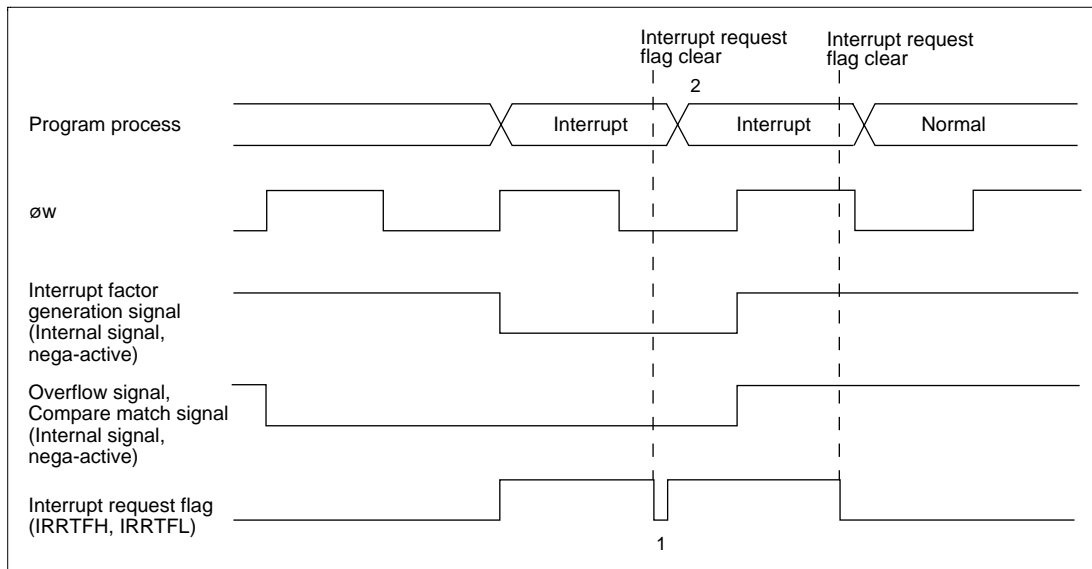

Figure 9.6 Clear Interrupt Request Flag when Interrupt Factor Generation Signal is Valid
When $\phi w/4$ is selected as the internal clock, “Interrupt factor generation signal” will be operated with ϕw and the signal will be outputted with ϕw width. And, “Overflow signal” and “Compare match signal” are controlled with 2 cycles of ϕw signals. Those signals are outputted with 2 cycles width of ϕw (figure 9.6)
In active (high-speed, medium-speed) mode, even if you cleared interrupt request flag during the term of validity of “Interrupt factor generation signal”, same interrupt request flag is set. (figure 9.6 1) And, you cannot be cleared timer overflow flag and compare match flag during the term of validity of “Overflow signal” and “Compare match signal”.
For interrupt request flag is set right after interrupt request is cleared, interrupt process to one time timer FH, timer FL interrupt might be repeated. (figure 9.6 2) Therefore, to definitely clear interrupt request flag in active (high-speed, medium-speed) mode, clear should be processed after the time that calculated with below (1) formula. And, to definitely clear timer overflow flag and compare match flag, clear should be processed after read timer control status register F (TCSRFB) after the time that calculated with below (1) formula. For ST of (1) formula, please substitute the longest number of execution states in used instruction. (10 states of RTE instruction when MULXU, DIVXU instruction is not used, 14 states when MULXU, DIVXU instruction is used) In subactive mode, there are not limitation for interrupt request flag, timer overflow flag, and compare match flag clear.